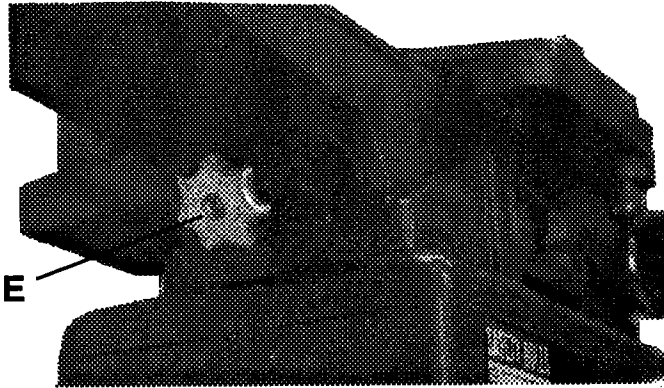

FIGURE 5
- Turn handwheel E, Figure 5 located on the underside of the outfeed table.